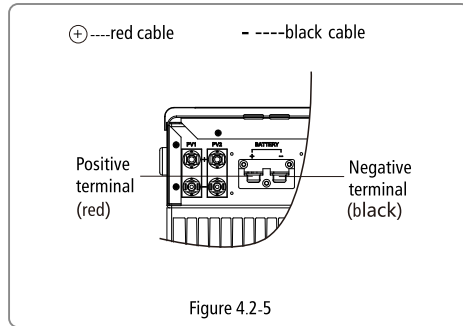
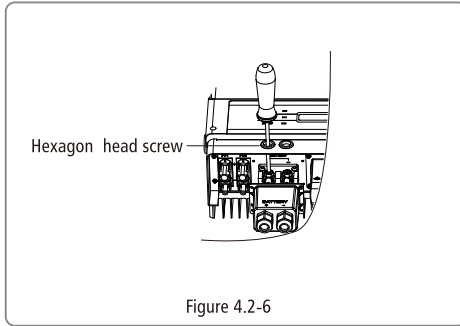
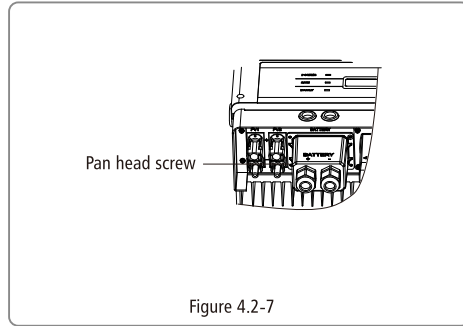

Figure 4.2-5
Figure 4.2-6
Figure 4.2-7
- (7) Put battery terminals into the corresponding holes (Red to the positive terminal; Black to the negative terminal.) and fasten them by screwdriver and spanner (recommended torsion: 6~8N.m ), then fasten battery cover with pan head screws in accessory bag. Refer to Figure 4.2-5, Figure 4.2-6, Figure 4.2-7.
- (8) Screw down screw cap again.